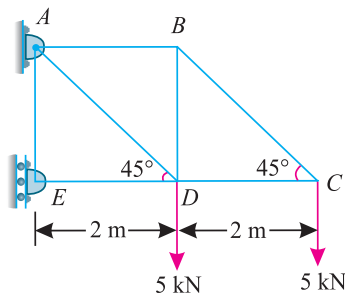

Fig. 13.67.
2. A cantilever braced truss supported on rollers at  $E$  and hinged at  $A$  is loaded as shown in Fig 13.67. Determine graphically or otherwise, the forces in the members of the truss, also determine the reactions at  $A$  and  $E$ .